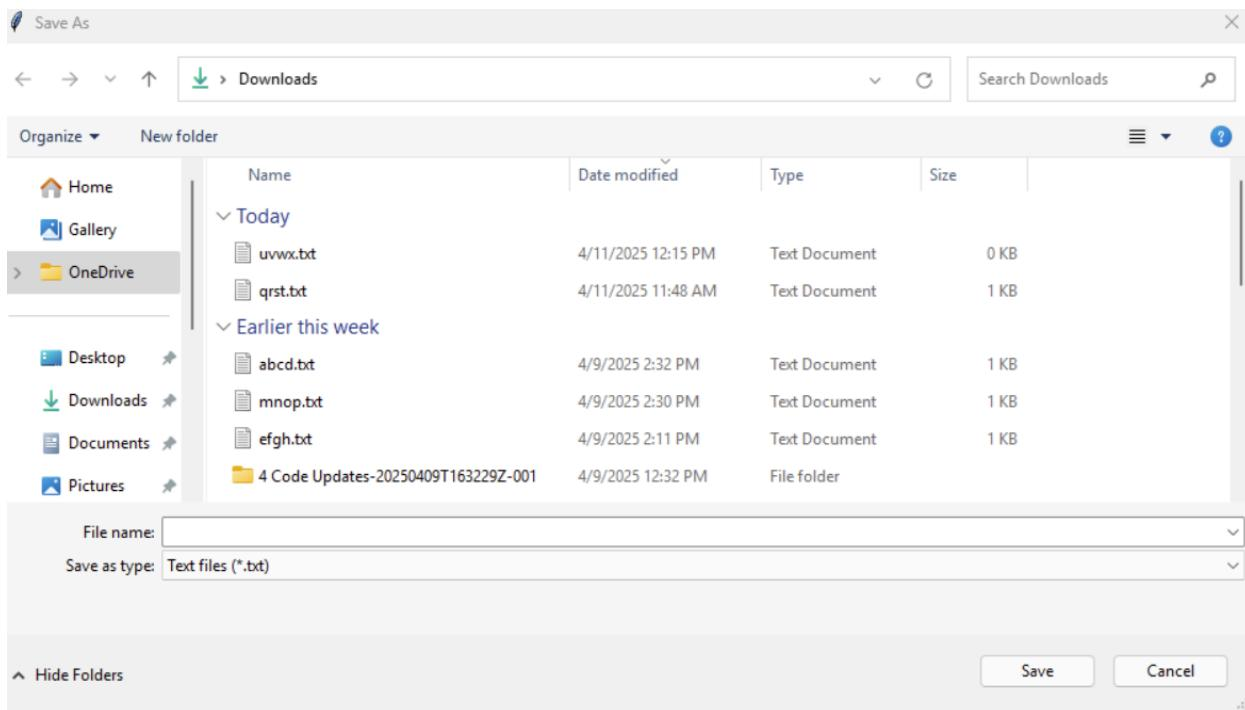

Figure 3.22 - Save File Windows File Explorer Interface (TS)
4b: If “Save Results” is pressed, the screen in figure 3.22 will appear. This screen will ask where the data should be saved and under what name. This is a File Explorer interface window which works similarly to Windows File Explorer. There are no restrictions on where the data can be saved so make sure the data is saved in an easily accessible location on the computer. Type the desired file name in the file name box. The file will be saved as a .txt file. Then, click “Save” to save the file or “Cancel” to not save a file (TS).